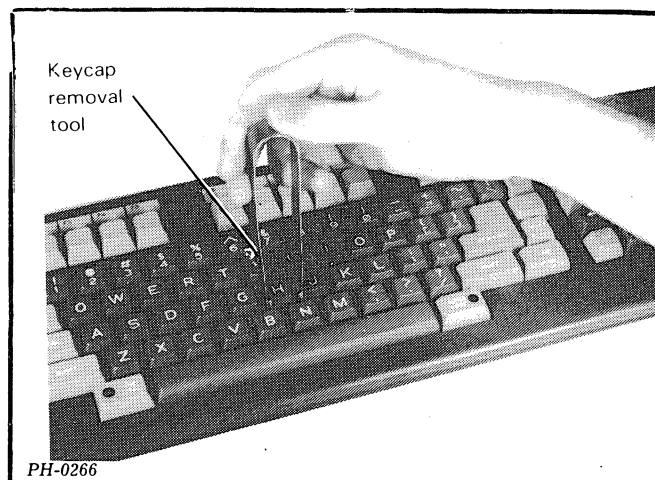

Figure 8.3 Removing a keycap
- Holding the keycap removal tool (DGC Part No. 002-11025) straight up with the tabbed end facing the front of the keyboard, push it down around the keycap (see figure 8.3).